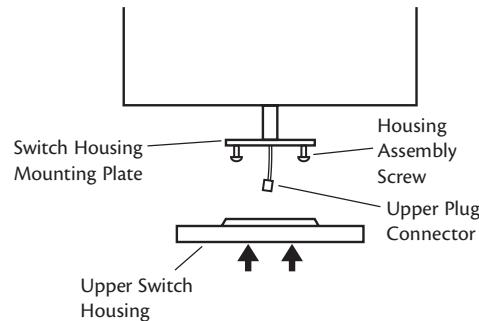

Figure 25 - Attaching the upper switch housing to the mounting plate
- Partially install two #6-32 x 3/8" housing assembly screws into the switch housing mounting plate as shown in Figure 25.
- Feed the upper plug connector through the center opening of the upper switch housing. See Figure 25.
1. Partially install two #6-32 x 3/8" housing assembly screws into the switch housing mounting plate as shown in Figure 25.
2. Feed the upper plug connector through the center opening of the upper switch housing. See Figure 25.